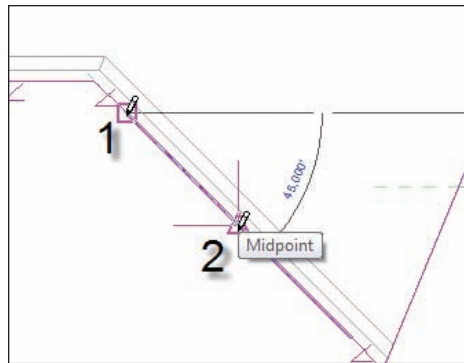

FIGURE 7.61 Adding the first slope arrow
2. For the first point of the slope arrow, click the endpoint of the first point you split (see number 1 in Figure 7.61).
3. For the second point of the slope arrow, pick the midpoint of the middle line (see Figure 7.61).